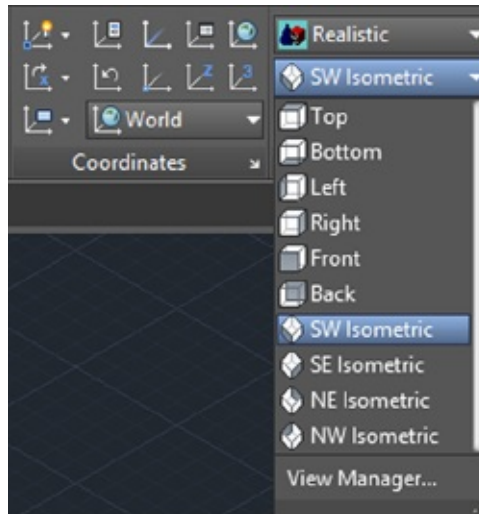

FIGURE 20.20 Selecting a view from the 3D Navigation drop-down list
2. Choose SW Isometric from the 3D Navigation drop-down list in the Home tab's View panel (see Figure 20.20). You can also type `-View ↵ Swiso ↵`.